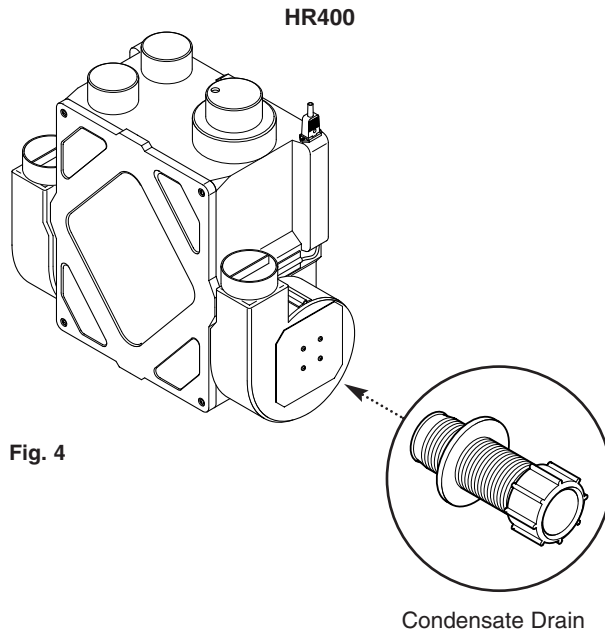

Fig. 4
4. The condensate drain is supplied fitted to the unit as shown (Fig. 4).